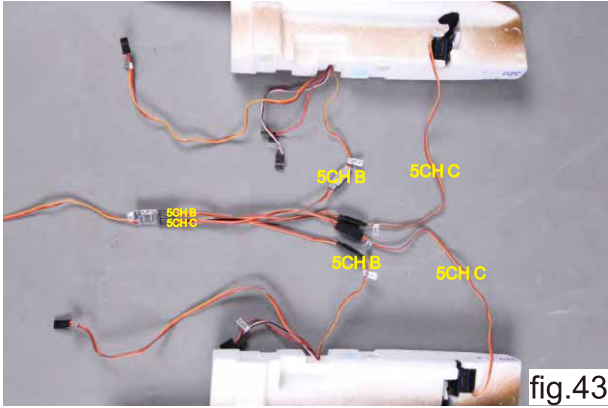
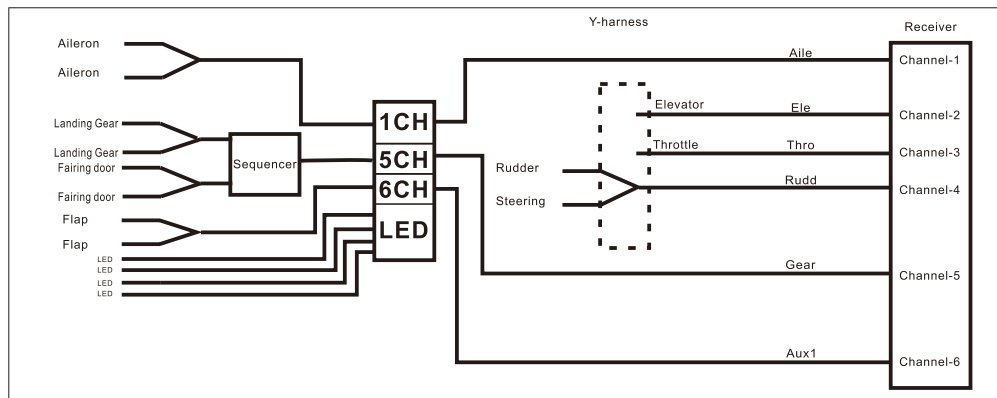

fig.43
fig.47
- 38) Connect the servo and retract leads per the photos and the receiver connection diagram (fig. 43 thru fig. 47). All leads have been labeled for your convenience.